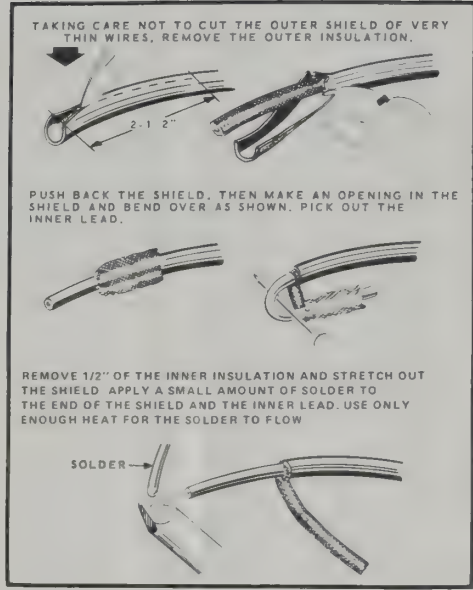

Figure 4
- ( ) Prepare the other end of the shielded cable as shown in Figure 4.